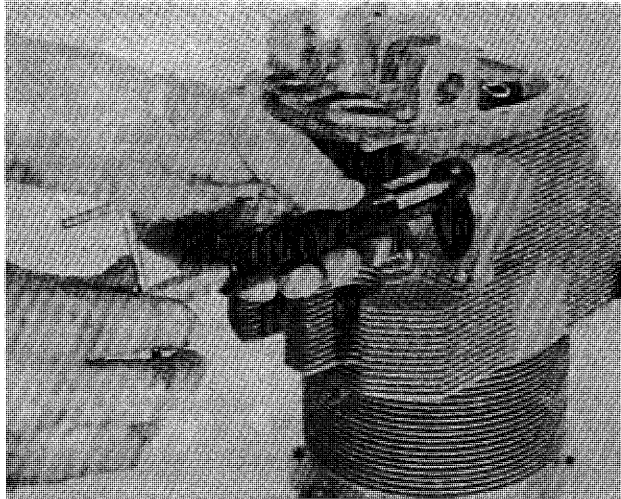

FIGURE 5-2. INSTALLING TYPICAL HELICAL INSERT
**5-21.** To remove a damaged helical coil insert use the proper size of extracting tool for the nominal thread size. Tap it into the insert so that the sharp edges get a good "bite"; then turn the tool to the left, and back out the helical coil until it is free. To install a new insert in a properly tapped hole (after blowing out all liquid and chips), slide it over the slotted end of the driving mandrel of the proper size of installing tool and engage the driving tang (bent end) of the helical coil in the mandrel slot; then wind the insert slowly into the tapped hole (See Figure 5-2). The outer end of the insert should lie just within the first full thread of the hole. Break off the driving tang of a notched helical coil by bending back and forth across the hole with long-nose pliers or with a special tang break-off tool.